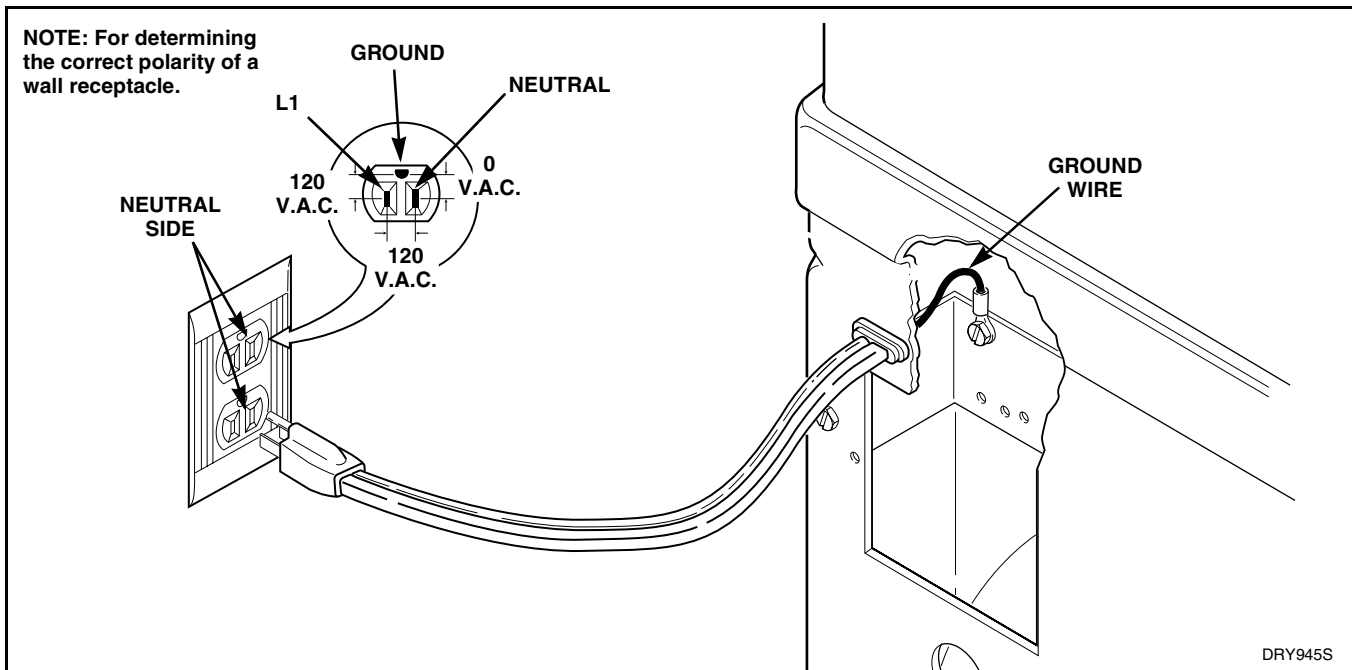

Figure 4
4. POWER CORD TO TERMINAL BLOCK BRACKET AND FROM TERMINAL BLOCK BRACKET TO CONTROL HOUSING. WALL RECEPTACLE POLARITY CHECK (Gas Models Only) Refer to *Figure 4*